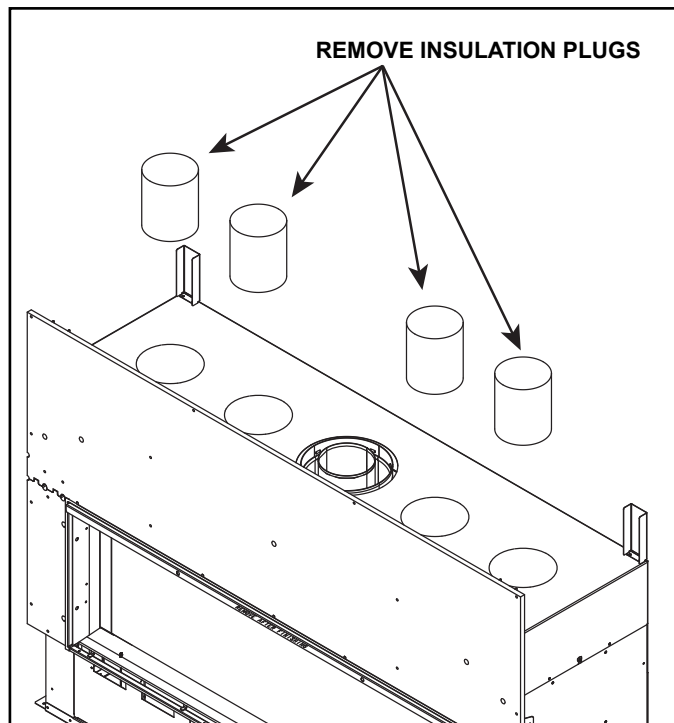

Figure 5.2 Remove Insulation Plugs
2. Remove the insulation plug from each knockout. Discard. See Figure 5.2.